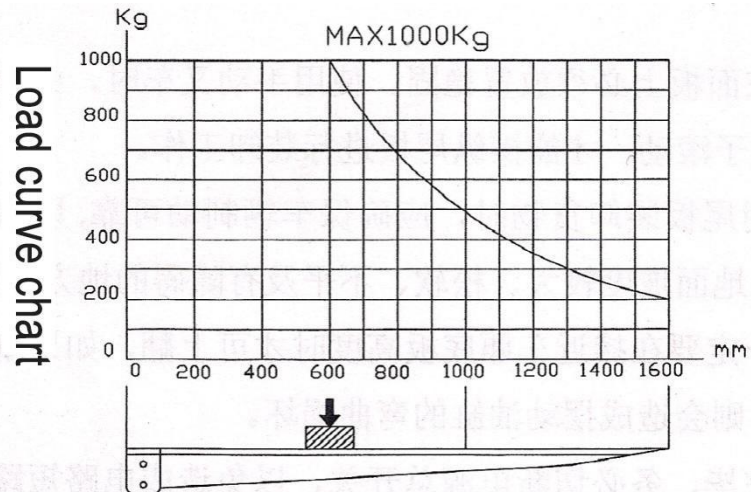

Figure 4-2
3. Load and unload goods as close to the root of the panel as possible. Products of different tonnage should be loaded according to their corresponding load curve and not overloaded. The load curves for 1 ton, 1.5 ton, and 2 ton are shown in Figures 4-2, 4-3, and 4-4, respectively. Please refer to the label paper on the back of the tailboard for specific operations.